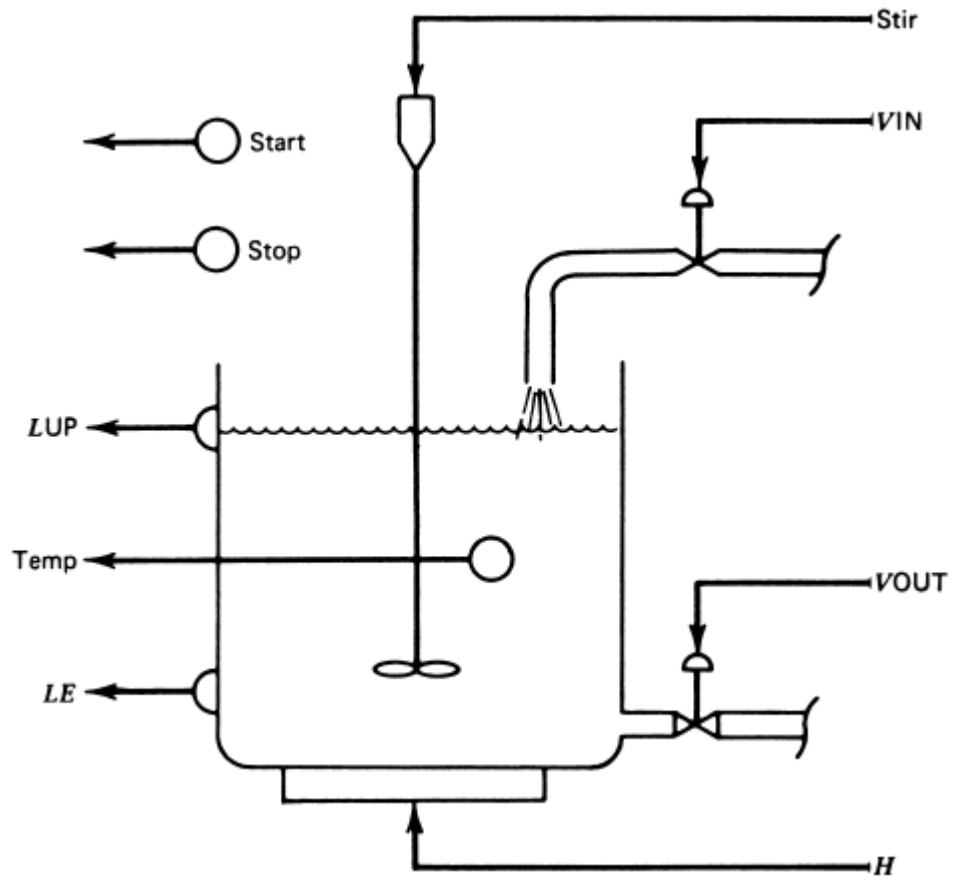

Fig 2. Tank system.
- b) i) Prepare the physical and programmed ladder diagram for the control problem shown in Figure 2. The global objective is to heat a liquid to a specified temperature and keep it there with stirring for 30 min.